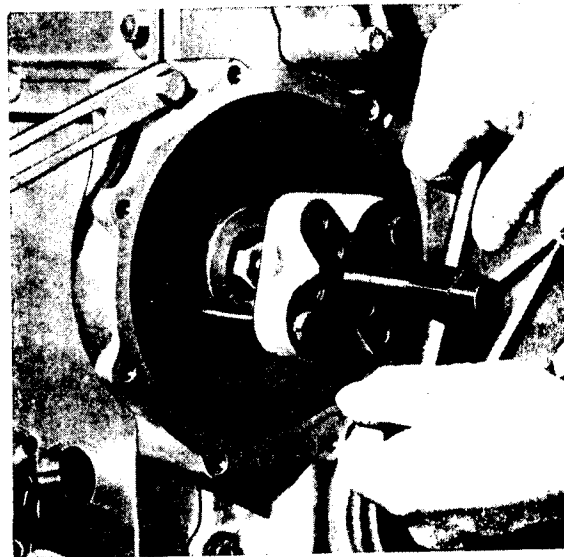

Fig. J.2. Removal of Camshaft Gear.
5. Remove the camshaft gear securing setscrew and washers and extract the gear from the camshaft (Fig. J.2).